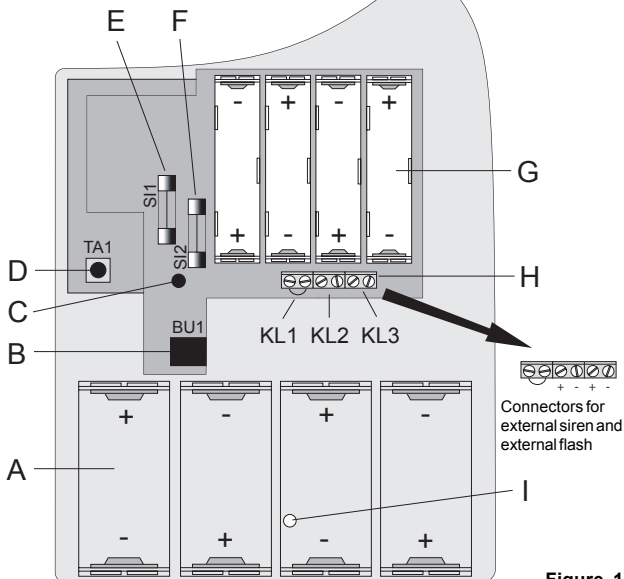

Figure 1
- When using a power supply, that cable should also be fed through the opening and connected to the 'BU1' socket ('B' in figure 1 on page 10). The inner contact is '+', the outer contact is '-', the power supply must provide a stable output voltage of +12V= and a current of 1A.
- If you also wish to use a power supply, connect the 'BU1' socket (see figure 1 on page 10) with the power supply's low-voltage output.